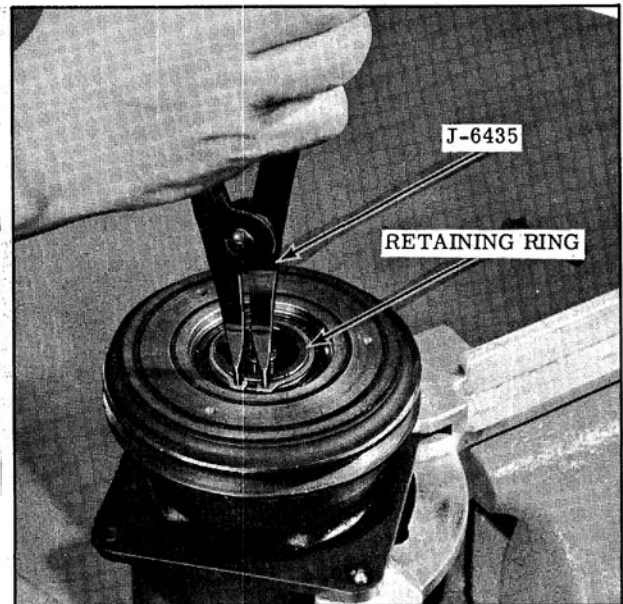

Fig. 14-81 Removing Pulley Retaining Ring
1. With the driven plate removed, remove the pulley retaining ring with Tool J-6435. (Fig. 14-81)